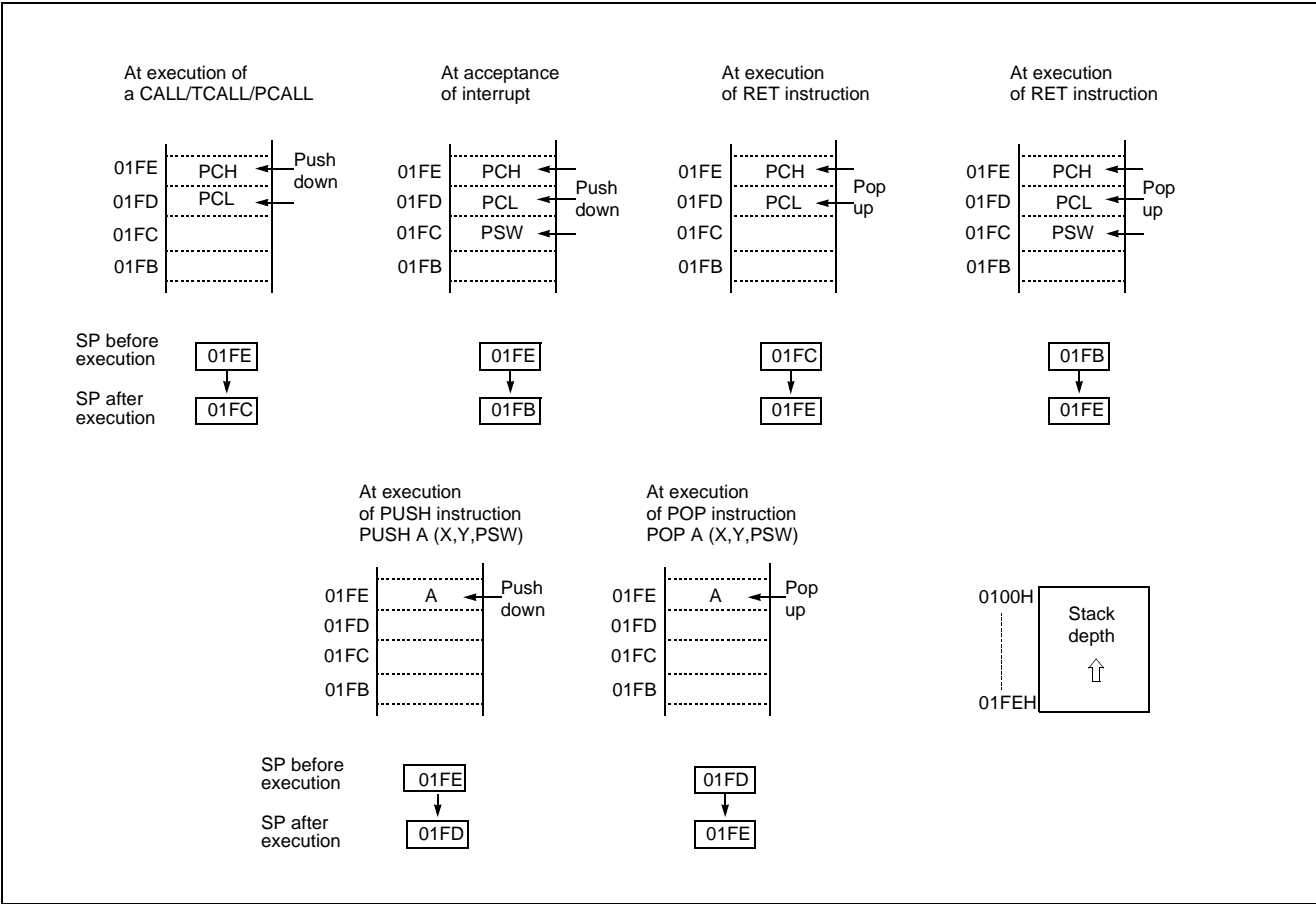

Figure 8-4 Stack Operation
The save/restore locations in the stack are determined by the stack pointed (SP). The SP is automatically decreased after the saving, and increased before the restoring. This means the value of the SP indicates the stack location number for the next save. Refer to Figure 8-4 on page 20.